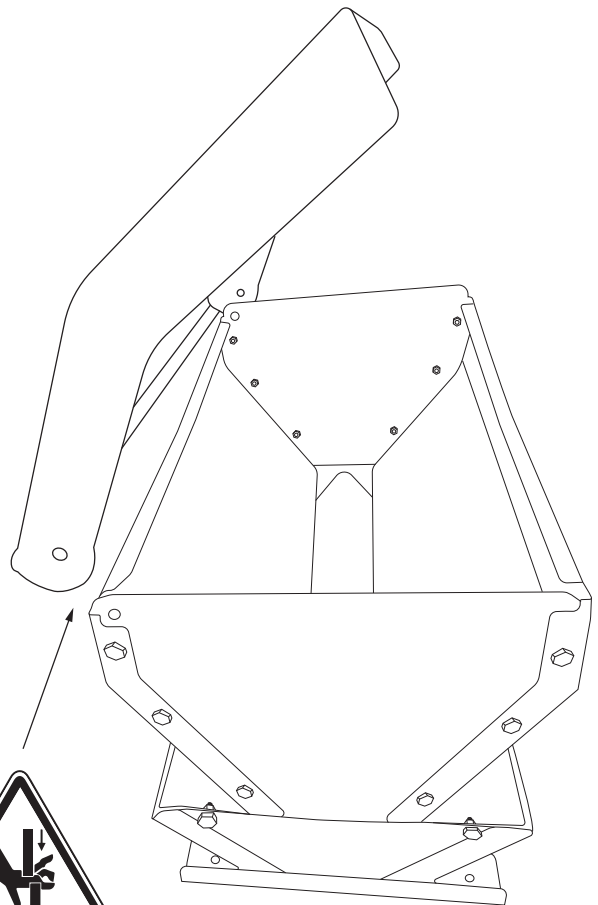

Figure 4
4. Install **Feeder Top** (F) onto Assembly using 2 **Bolts** (H3), 2 **Bushings** (H4), and 2 **Locking Nuts** (H5). Tighten to Secure. (Figure 4)